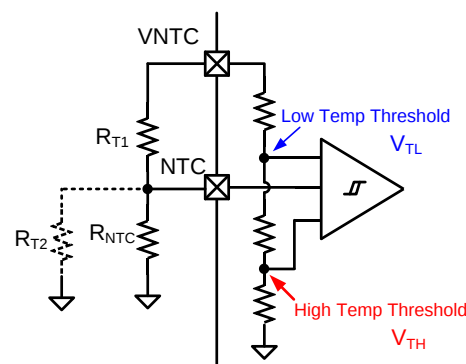

Figure 16: NTC Function Block
An internal resistor divider sets the low temperature threshold (V_{TL}) and high temperature threshold (V_{TH}) at 66.6% of V_{SYS} and 35% of V_{SYS} , respectively (see Figure 16). For a given NTC thermistor, select an appropriate R_{T1} and R_{T2} to set the NTC window with Equation (8) and Equation (9):